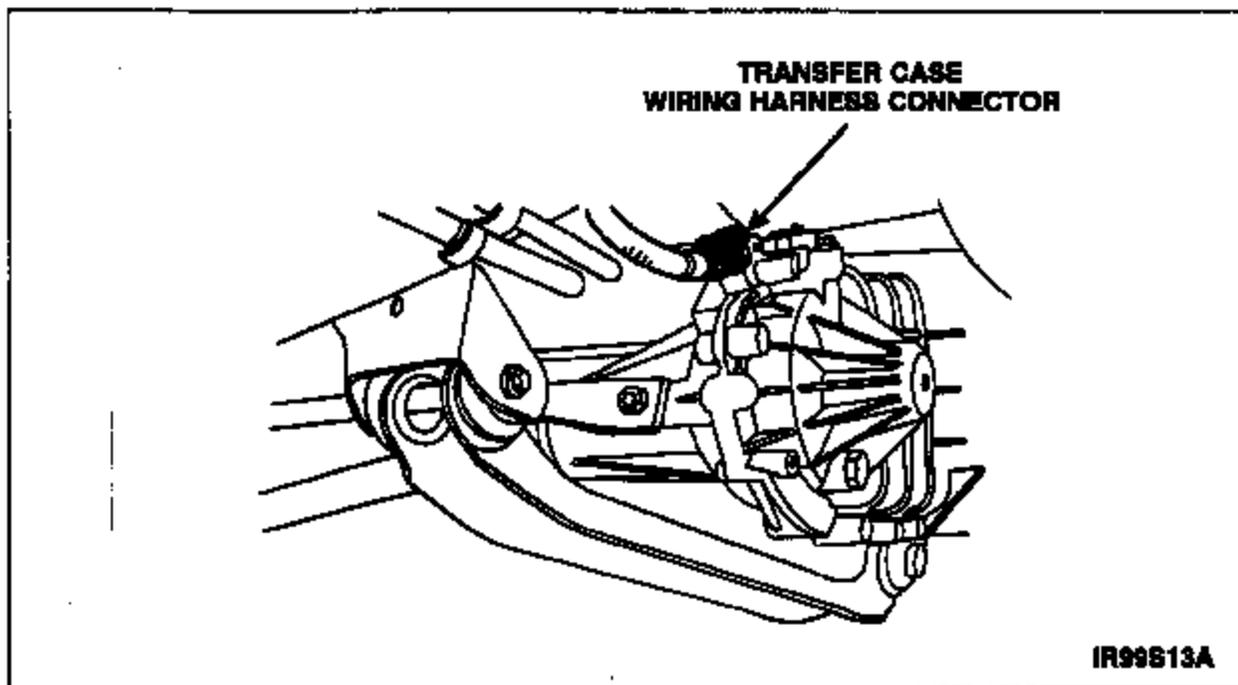

FIGURE 1
5. Disconnect the transfer case wiring harness connector. See Figure 1.